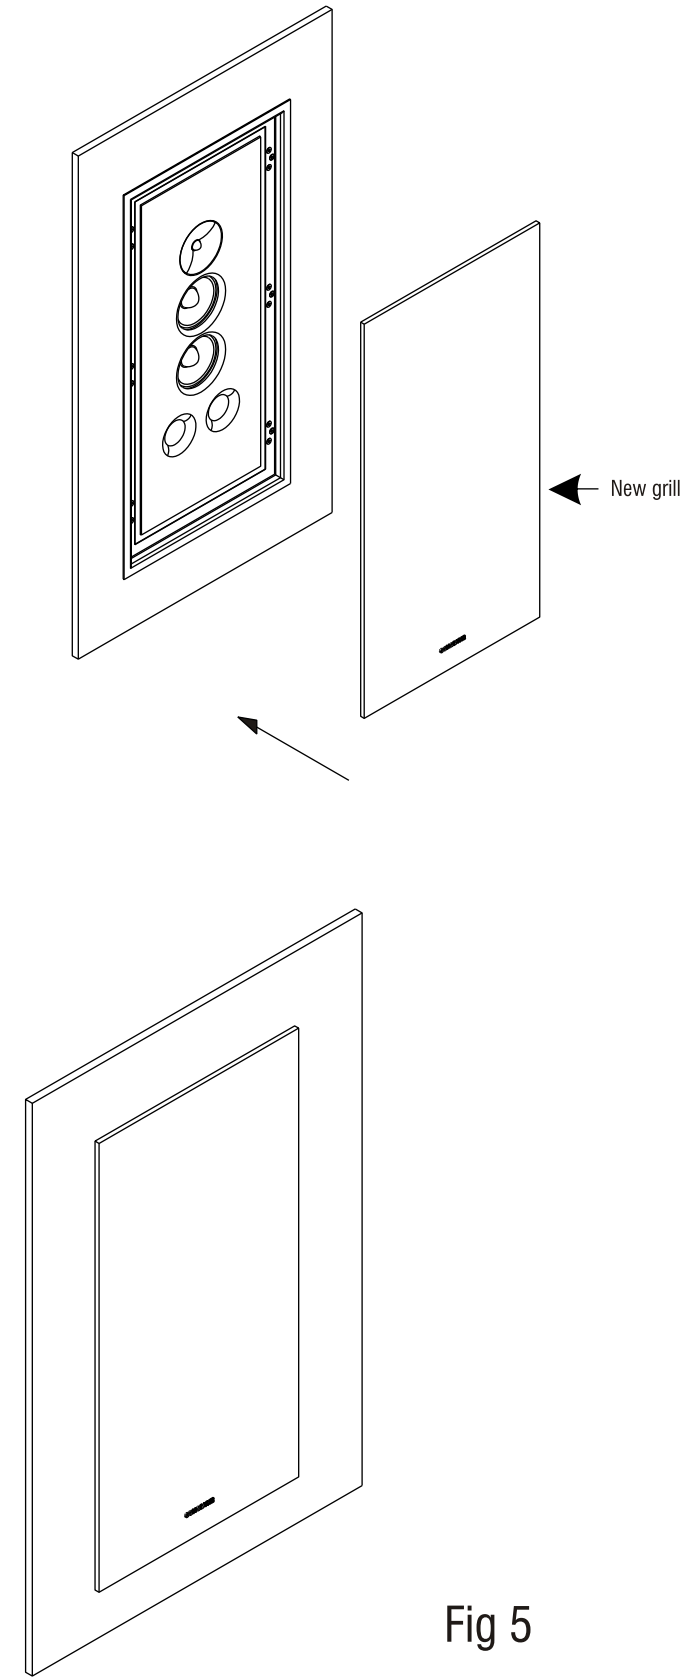

Fig 5
• fig 5 •
- Attach the new grill supplied with the kit. Please see fig. 5 below.